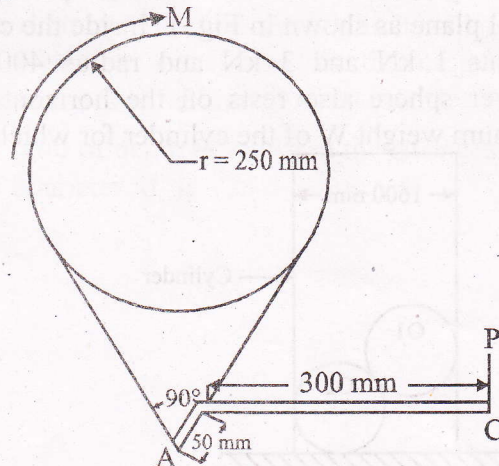

Fig. 4
- (a) A torque of 300 Nm acts on the brake drum as shown in Fig. 4. If the brake band is in contact with the brake drum through 250° and the coefficient of friction is 0.3. Determine the force P applied at the end of the brake lever for the position shown in Fig. 4.